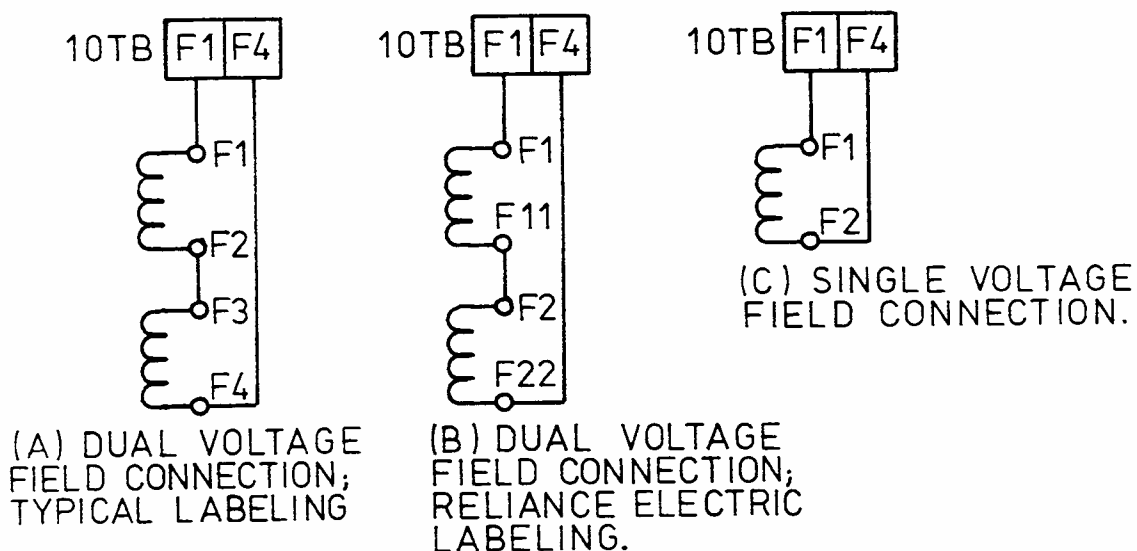

FIGURE 7.2
- (I) Check motor field with ohmmeter. Reassure that the field wiring is set up correctly; see section 7.2 (figure 7.2). Field resistance should be between 100 ohms to 600 ohms. Omit this step for PM motors.
- (II) Replace any faulty wires, PC boards, power bridge, motor, etc.
- (IV) Reconnect A1 and A2 wires to the motor but leave F1 and F4 wires off.
- (V) Reconnect all other wirings that may have been disconnected, except wires going to 100TB-5, 100TB-6, 100TB-7, and 100TB-8.
- (VI) On units equipped with dynamic braking, leave A1 (Brn) and A2 (Gry) wires going to fast-on connectors under E1530 PC board disconnected. Check resistance between these fast-on connectors; should be around 50K.
- (IX) Jumper 100TB-1 and 100TB-5; momentarily. Fwd. command circuit should latch on, but the bulbs should not light up.
- (X) Rotate the speed pot 20% clockwise. One of the following observations should be made: